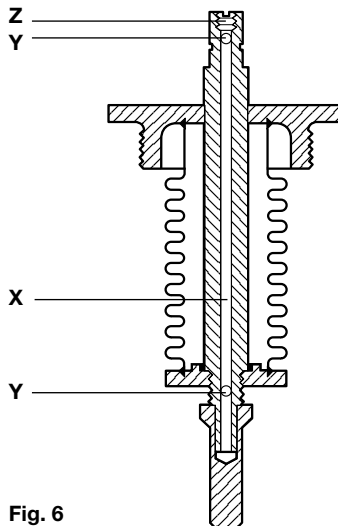

Fig. 6
4.3 KB and KC valves (refer to Figure 6)